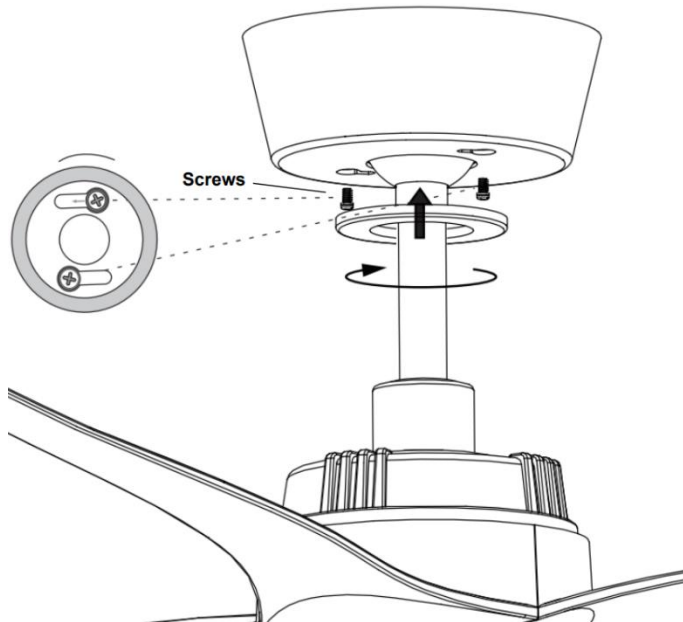

Fig. 11
**INSTALLATION OF THE CANOPY (Fig. 11)**